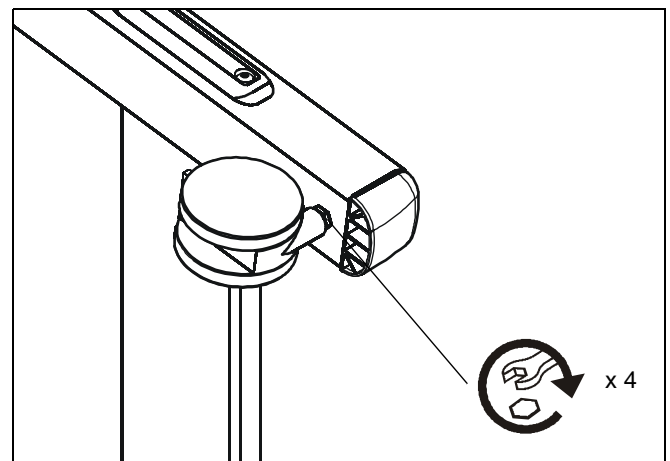

Figure 19
- Check and tighten the hex nuts on the casters occasionally. (See Figure 19) These should be checked especially after use on uneven ground.